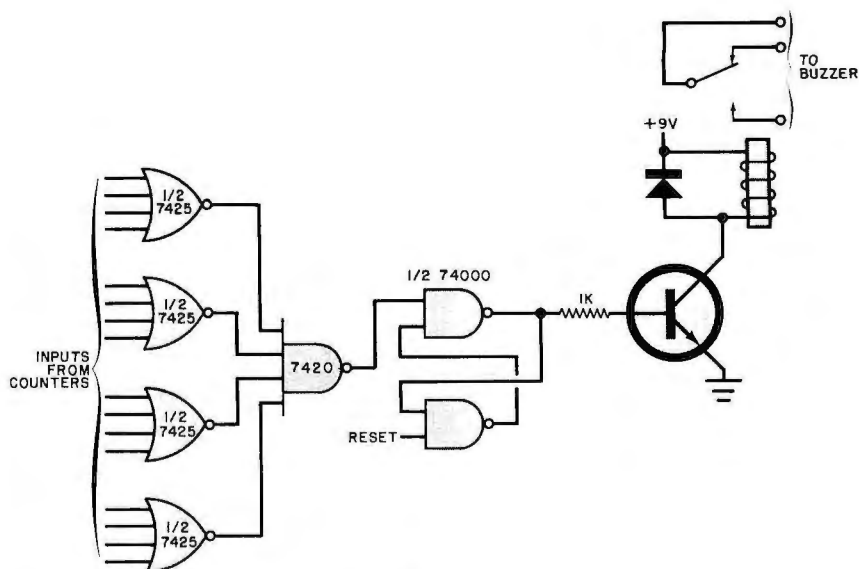

Fig. 7. This optional circuit can take the outputs from the counters and connect power to sound a horn accessory when the time is 00:00.
**Horn Option.** An additional circuit (not included in the prototype) can be used to sound a horn or buzzer at zero time (Fig. 7). The BCD code from each counter is routed to its own four-input NOR gate (7425). When all lines are at a zero level (zero time), the output of four-input NAND gate (7420) goes low causing the SR flip-flop composed of the two 7400 NAND gates to produce a high state. This state is retained until the RESET switch on the control box is operated. The output transistor is used to operate a relay whose switch contacts should have the capability of handling the current demand of the selected horn or buzzer. Any relay that can operate at 9 volts can be used and the transistor should have sufficient collector current (when saturated) to operate the relay coil.